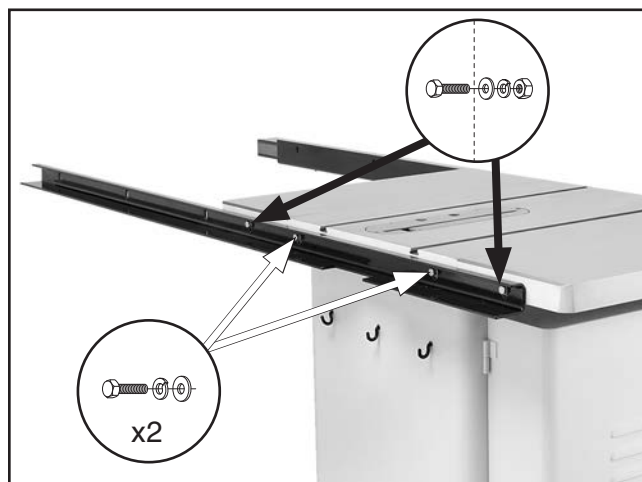

Figure 21. Rear rail installed (Model G0691 shown).
12. Attach the rear rail to the holes on the main table using (2) $\frac{5}{16}$ "-18 x 1" hex bolts, 8mm lock washers, and 8mm flat washers, as shown in **Figure 21**.